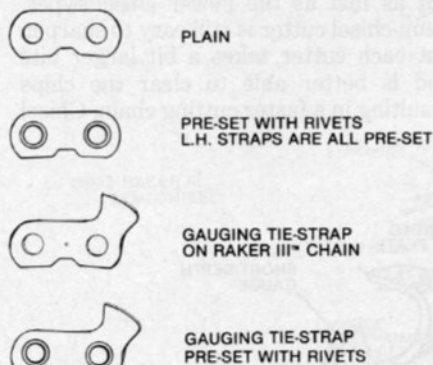

Fig. HC15— View of various types of tie-straps.
a) Variations. Refer to Fig. HC15 for view of various types of tie-straps.